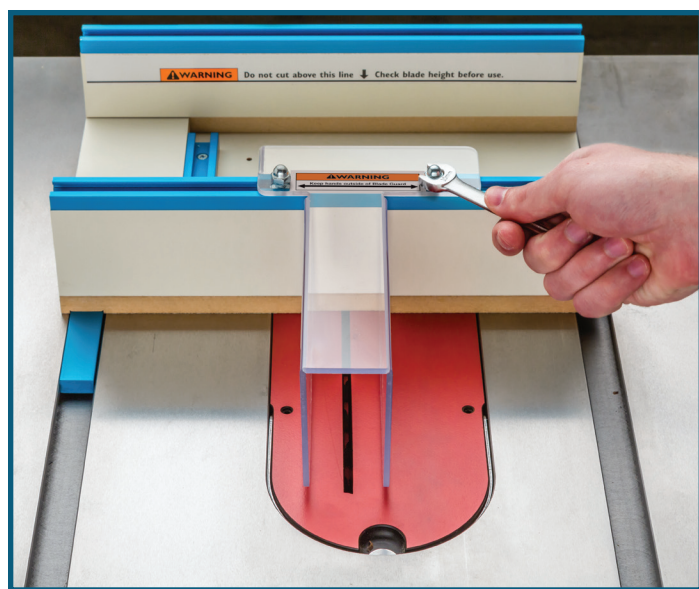

Fig. 2
4. With the table saw turned off, position the Sled Body (1) at the front of the saw table.
5. Install the 1/4"-20 x 1/2" Hex Bolts (8) and 1/4"-20 Cap Nuts (7) on the plastic Blade Guard (6) with bolt heads facing down, but don't tighten them.
6. Slide the heads of the 1/4"-20 x 1/2" Hex Bolts (8) on the Blade Guard (6) into the T-track atop the back fence of the Sled Body (1) and position the Blade Guard so that the rear channel is roughly centered over the blade path. (Use the slot in the saw's throat plate as a guide.) Tighten the 1/4"-20 Cap Nuts (8) to lock the Blade Guard in position. **Fig. 2.**
7. Slide the Sled Body (1) backward so that it will be clear of the blade.